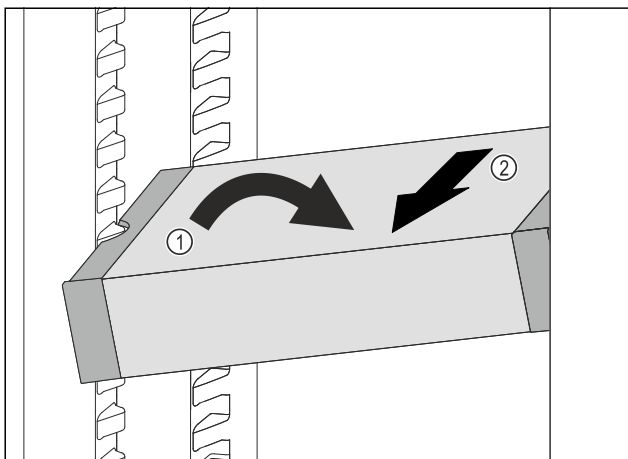

Fig. 114
- Set VarioSafe in refrigerator compartment at an angle. Fig. 114 (1)
- Take VarioSafe out to the front. Fig. 114 (2)